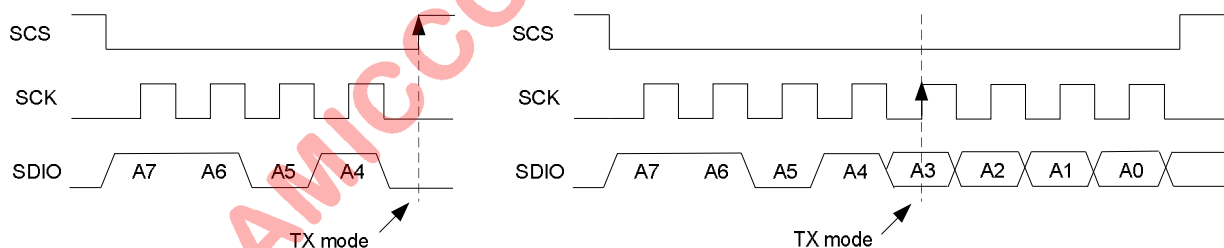

Figure 10.9 TX mode Command Timing Chart
- Step4: Send TX Strobe command for packet transmitting. Refer to Figure 10.9.